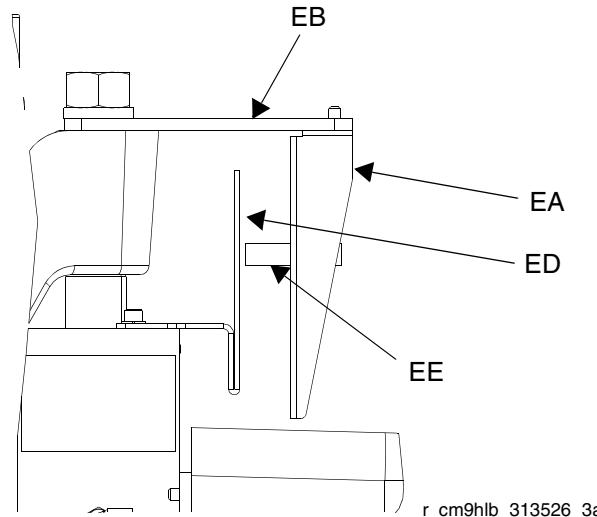

FIG. 10: S20 supply systems
5. For S20 supply systems: Attach the actuator (ED) to the ram cylinder endcap, so the sensor (EE) passes in front of the bracket (ED) at the correct level for drum low or drum empty. See FIG. 10.